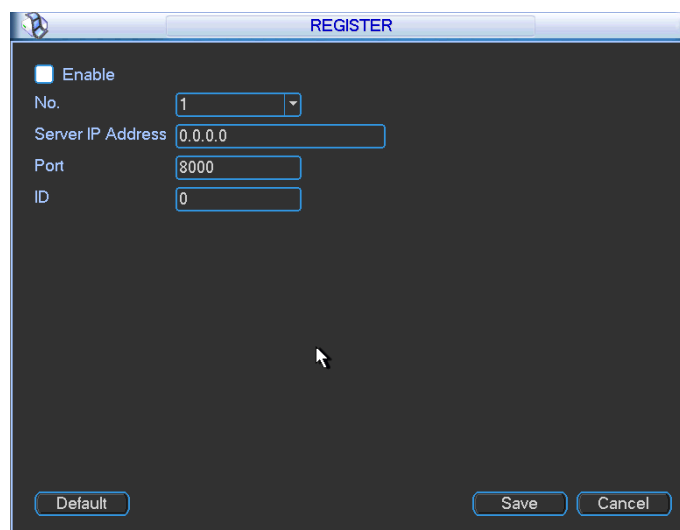

Figure 5-54
1) The setup interface is shown as in Figure 5-54.
3) Now you can add device. Please do not input default port number such as the TCP port in the mapping port number. The device ID here shall be the same with the ID you input in Figure 5-54. Click Add button to complete the setup.